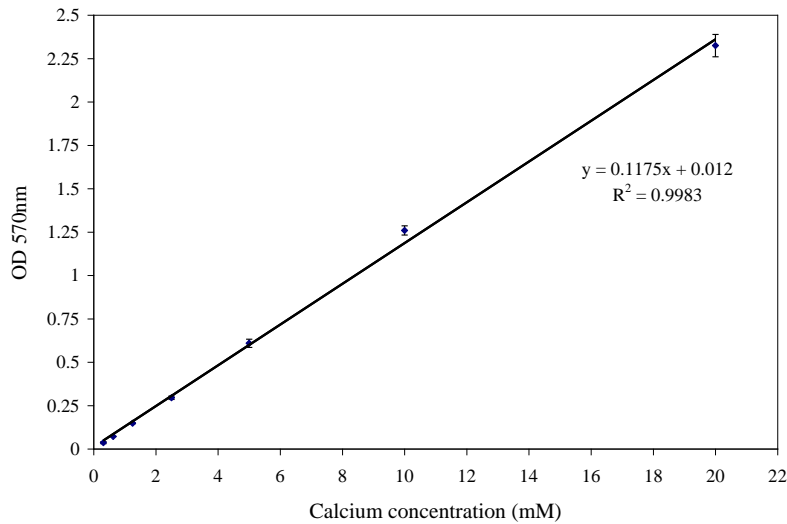

Figure 1. A typical calcium standard curve measured by ScienCell™ Calcium Assay.
The ScienCell™ Calcium Assay is applied to calcium standards serially diluted from 20 to 0.3125 mM, and linearity can be proved, as shown in Figure 1.
3. Generate the standard curve by plotting the calibrated OD_{570nm} of the calcium standards against the calcium concentrations, as shown in Figure 1.